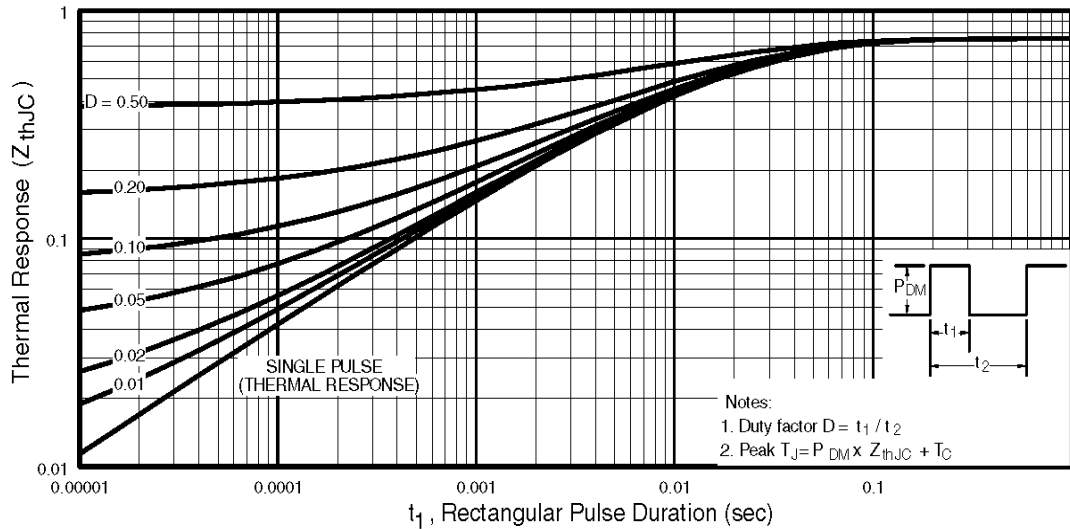

Fig 11. Maximum Effective Transient Thermal Impedance, Junction-to-Case
① Repetitive rating; pulse width limited by max. junction temperature. (See fig. 11)